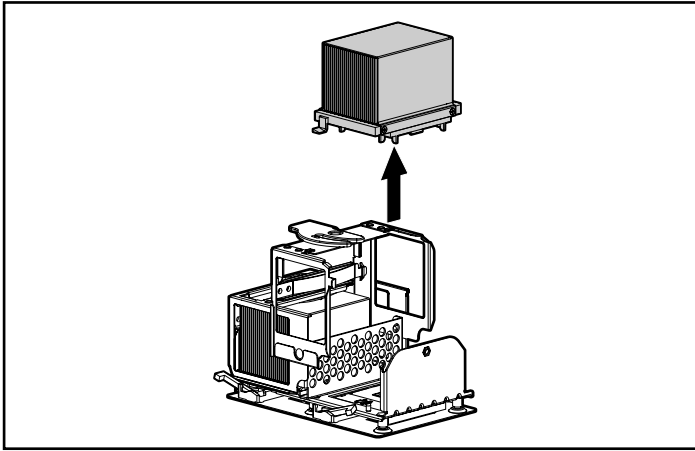

Figure 3-40: Removing the processor/heatsink assembly
- b. Remove the processor/heatsink assembly (Figure 3-40).